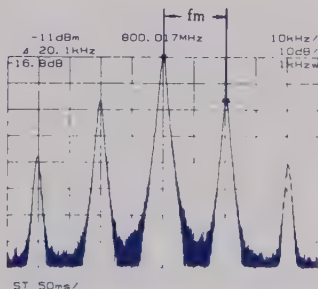

Fig. 3-14 Determination of demodulation frequency from Δ marker
Step 7 Adjust the Δ marker to the other peak. Determine the Δf_{peak} by reading the displayed Δ marker frequency. (See Figure 3-14.)